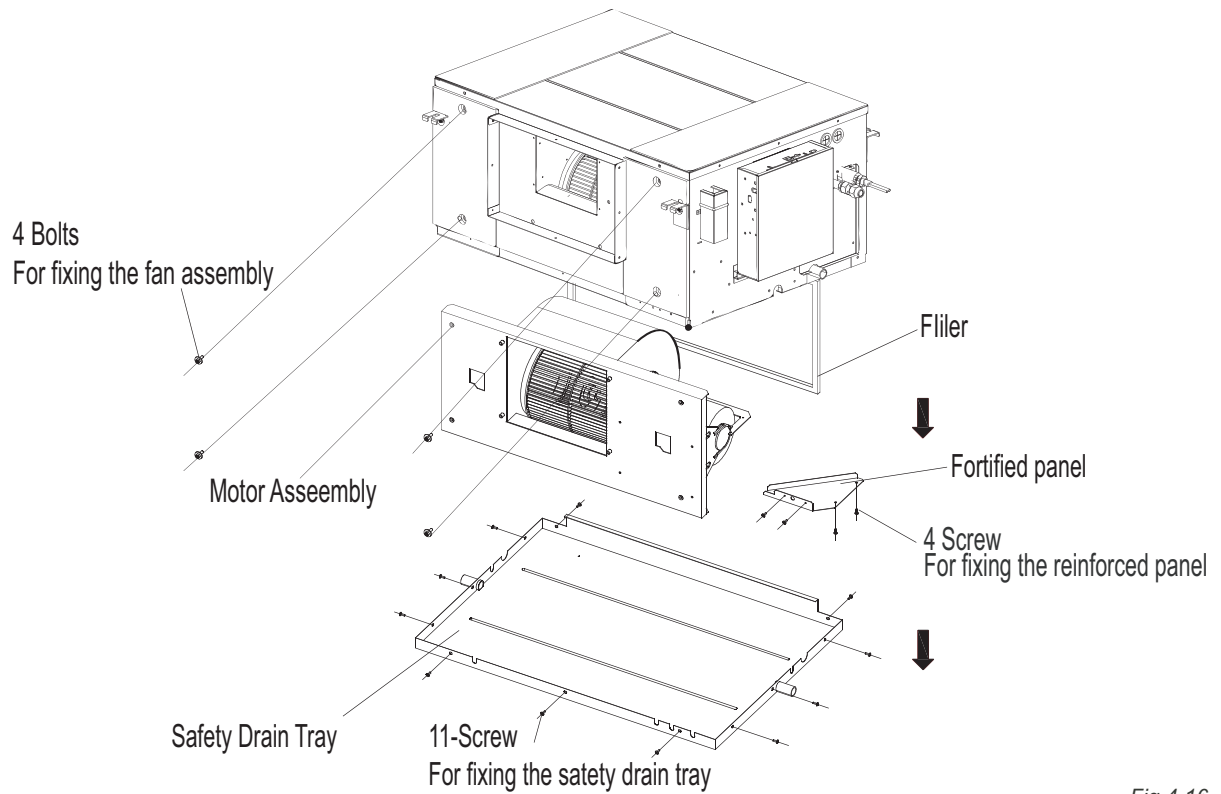
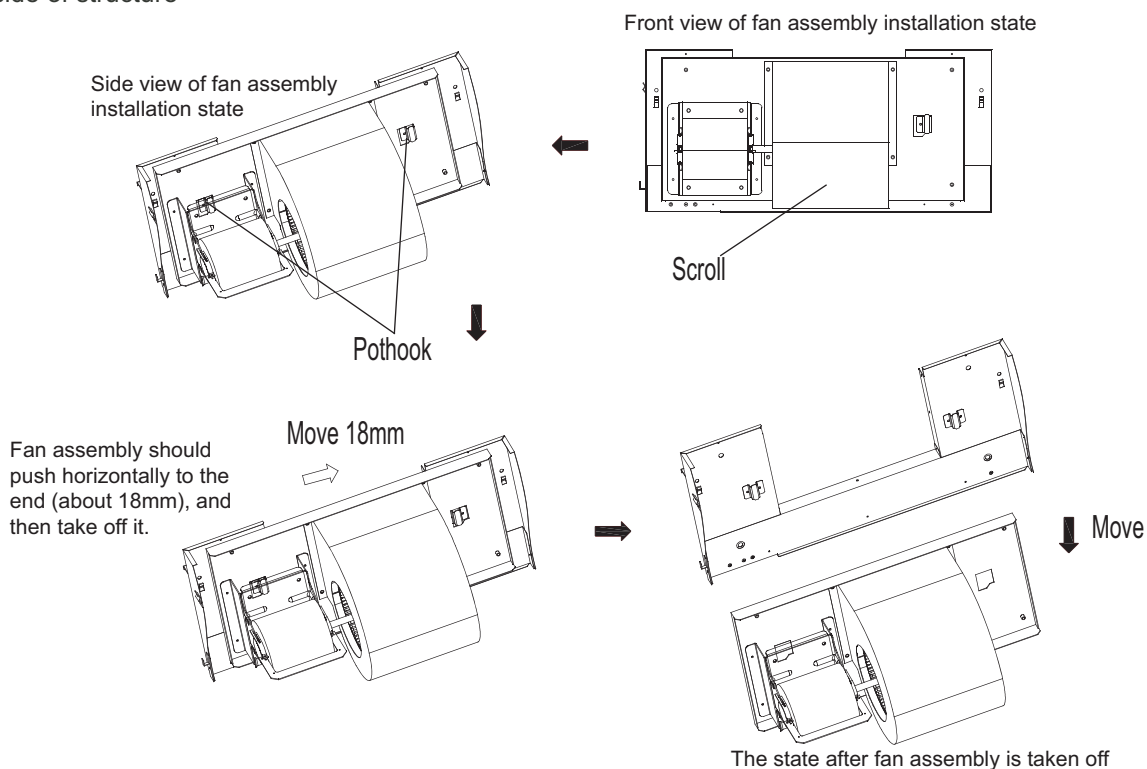

Fig.4-16
Fig.4-17
1. Refer to Fig.4-16, remove all 11 bolts from safety drain tray, and take off the safety drain tray.
2. Refer to Fig.4-16, remove all 4 bolts from reinforced panel, and take off the panel.
3. Refer to Fig.4-16, remove all 4 bolts from fan assembly, see Fig.4-17, according to which orders to take off the fan assembly.
4. Refer to Fig.4-17, horizontal pushing the fan assembly, until it cannot not move any further, and then lift up slightly and take down to remove it.